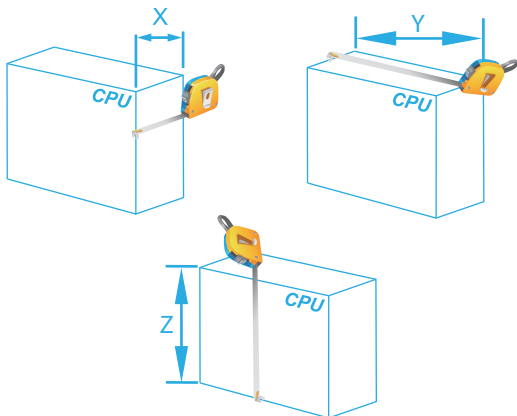

Figure 13
1. Use a **Measuring Tape** to measure either the **Width (X)**, **Length (Y)**, or **Height (Z)** of the **CPU**. Figure 13.